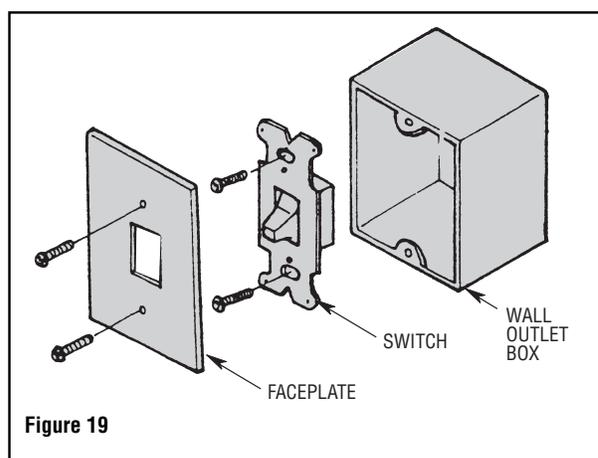
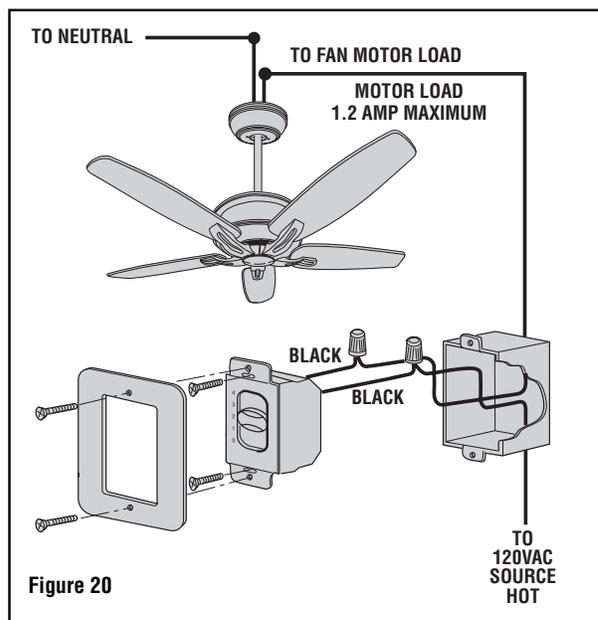

Figure 19
Figure 20
3. Disconnect wire from existing fan wall switch (Figure 19).
4. Slide the SW46 speed control in the OFF position (0).
5. Connect one BLACK wire from the SW46 speed control to the fan/motor lead with a wire connector (provided). (Figure 20.)